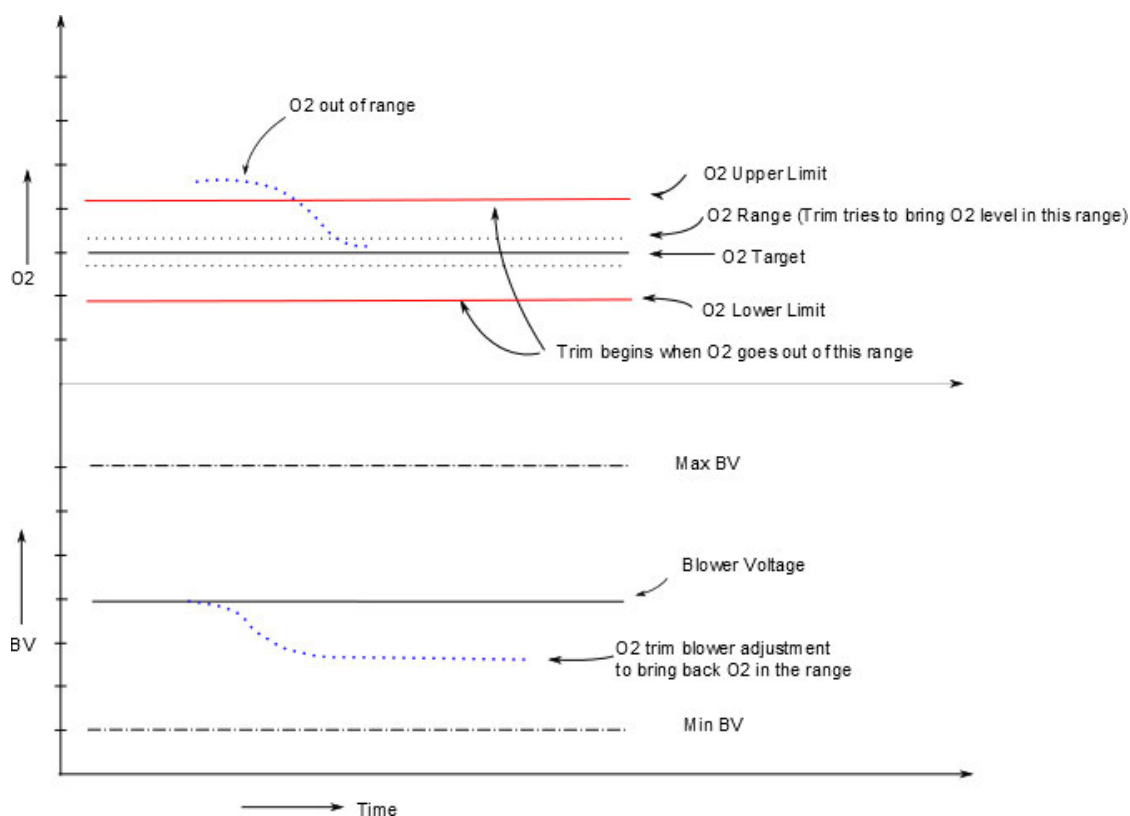

Figure 6-3: AERtrim Logic
Figure 6-3 graphically shows the functional logic of the AERtrim system and how the blower voltage (BV), O₂ Limits, and air/fuel ratio interact during an AERtrim operation. The limits are fixed presets within the controller. The target range is adjustable within these limits to allow the user to select the optimal air/fuel ratio for a particular boiler or application.
Figure 6-3 shows how the controller would react to an O₂% reading above the upper limit. The controller will reduce the blower voltage (BV) until the O₂% reading is within the Target Range, provided the BV adjustments are within the BV limits for that unit at that fire rate. The control will then store this as the new BV calibration setting until changed manually or by another cycle of the AERtrim function.